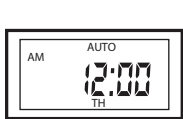

Figure 2
- a. Use a toothpick or sharp pencil to push the **RESET** (E) button. The screen will go blank briefly and then display 12:00 AM.
- b. Press and hold **SET** (B) for 5 seconds until the hour begins to flash. Release the button. See Figure 2.
- c. Press **UP/DOWN** (D) to adjust the hour. Press **SET** (B) to confirm. The default is 12 AM. Take note of the AM/PM on the upper left of the screen when setting the hour.
- d. Press **UP/DOWN** (D) to adjust the minute. Press **SET** (B) to confirm.
- e. Press **UP/DOWN** (D) to adjust the year. Press **SET** (B) to confirm.